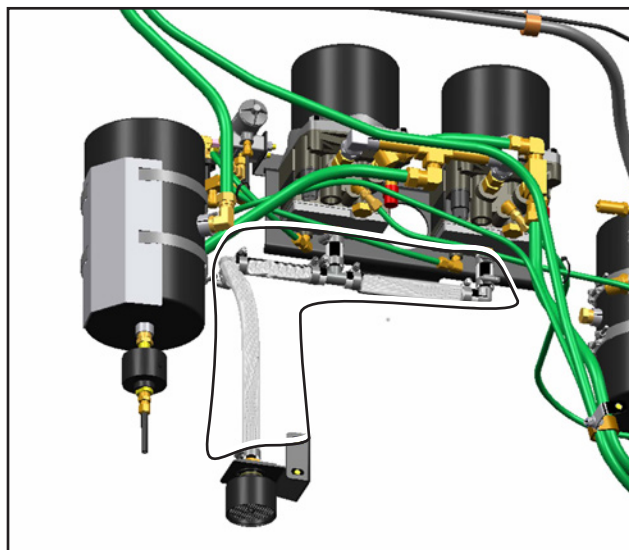

Figure 2 - Air Dryer Draining Hose Assembly
- 1.2. Remove all draining hoses between the air dryer and the muffler. Discard the entire hose assembly. See Figure 2.